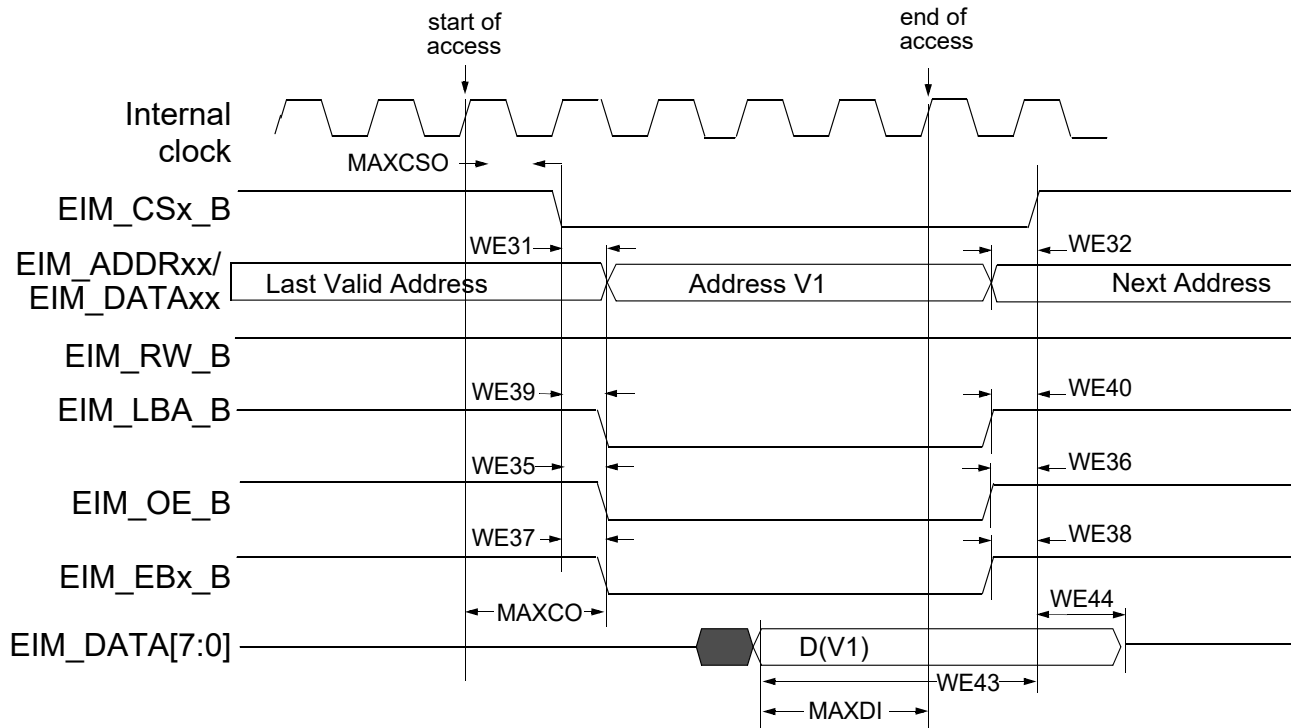

Figure 16. Asynchronous Memory Read Access (RWSC = 5)
Figure 16 through Figure 20, and Table 35 help you determine timing parameters relative to the chip select (CS) state for asynchronous and DTACK EIM accesses with corresponding EIM bit fields and the timing parameters mentioned above.
Asynchronous read and write access length in cycles may vary from what is shown in Figure 16 through Figure 19 as RWSC, OEN and CSN is configured differently. See the i.MX 6SoloLite reference manual for the EIM programming model.